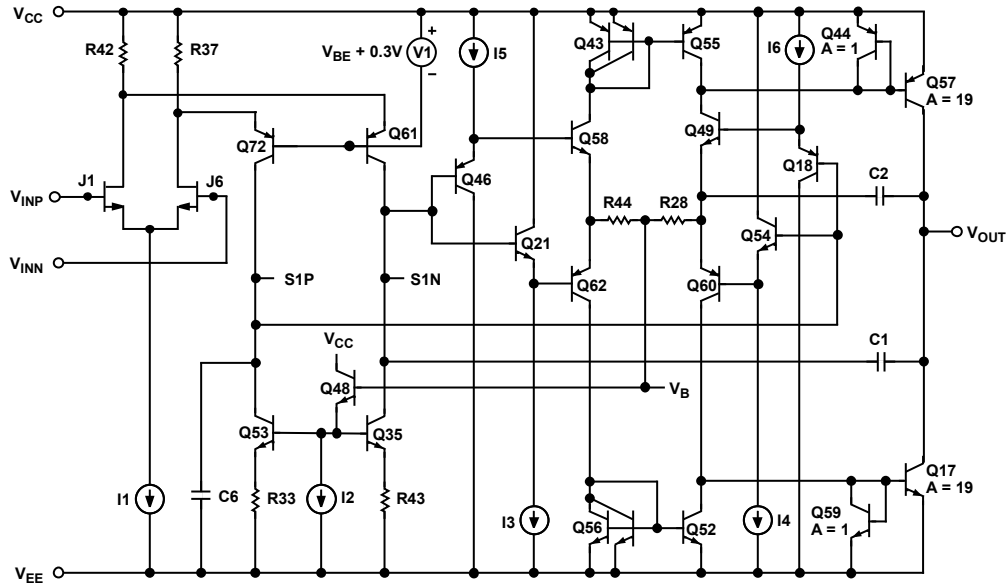

Figure 36. Simplified Schematic
The AD823 is fabricated on the Analog Devices, Inc. proprietary complementary bipolar (CB) process that enables the construction of PNP and NPN transistors with similar f_T 's in the 600 MHz to 800 MHz region. In addition, the process also features N-Channel JFETs that are used in the input stage of the AD823. These process features allow the construction of high frequency, low distortion op amps with picoamp input currents. This design uses a differential output input stage to maximize bandwidth and headroom (see Figure 36). The smaller signal swings required on the S1P/S1N outputs reduce the effect of the nonlinear currents due to junction capacitances and improve the distortion performance. With this design, harmonic distortion of better than -91 dB @ 20 kHz into 600Ω with $V_{OUT} = 4$ V p-p on a single 5 V supply is achieved. The complementary common emitter design of the output stage provides excellent load drive without the need for emitter followers, thereby improving the output range of the device considerably with respect to conventional op amps. The AD823 can drive 20 mA with the outputs within 0.6 V of the supply rails. The AD823 also offers outstanding precision for a high speed op amp. Input offset voltages of 1 mV maximum and offset drift of $2 \mu\text{V}/^\circ\text{C}$ are achieved through the use of the Analog Devices advanced thin film trimming techniques.